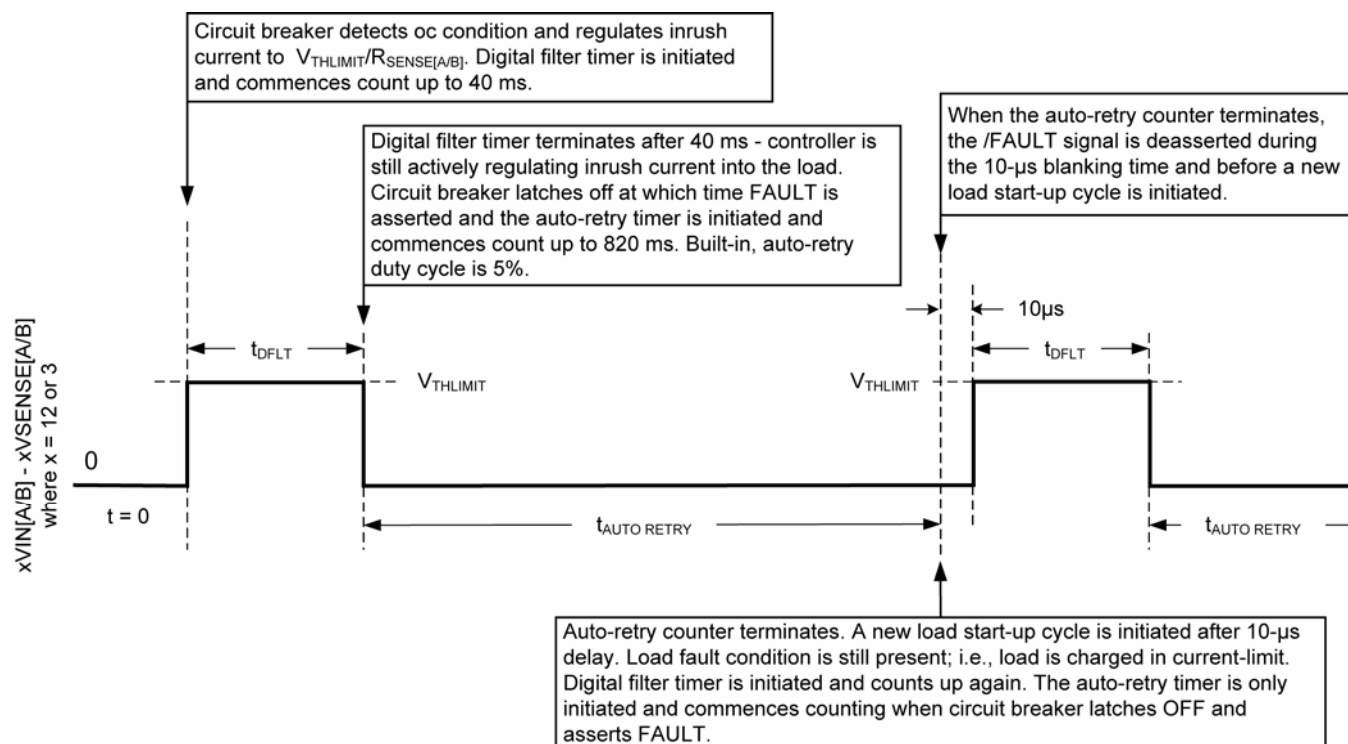

Figure 7. MIC2342R Auto-Retry Timing Diagram and Operation in Current-limit
In very cost-sensitive applications, the system design engineer can save the cost of the (2) external  $C_{\text{FILTER}}[\text{A/B}]$  capacitors by using only the digital filter and/or the Auto-retry delay counters. This mode is automatically invoked by connecting the MIC2342 or the MIC2342R's  $C_{\text{FILTER}}[\text{A/B}]$  pins directly to AGND. In this configuration, the primary OC detectors' response time  $t_{\text{FLT}}$  is equal to  $t_{\text{DFLT}}$  (or 40ms as above) In Figure 7,